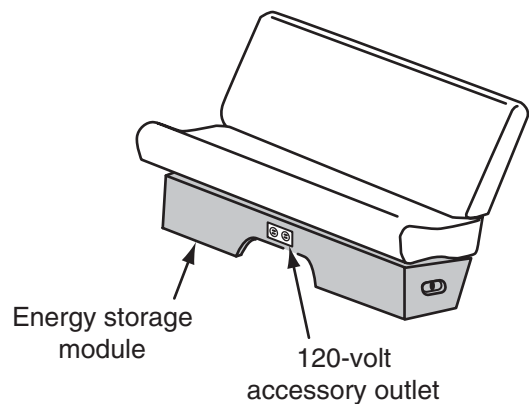

Figure 11–30 Rear seat showing part of the energy storage module. Also note the 120 V accessory power outlet (APO) on the lower portion. © Cengage Learning 2012
A third component is the starter/generator control module (SGCM), located in the engine compartment. This unit manages the vehicle's electric power by taking starter/generator-supplied 42 V alternating current (AC) power and converting it into three different forms of power as follows (Figure 11–31):
1. 42 V direct current (DC) to charge a 42 V battery.